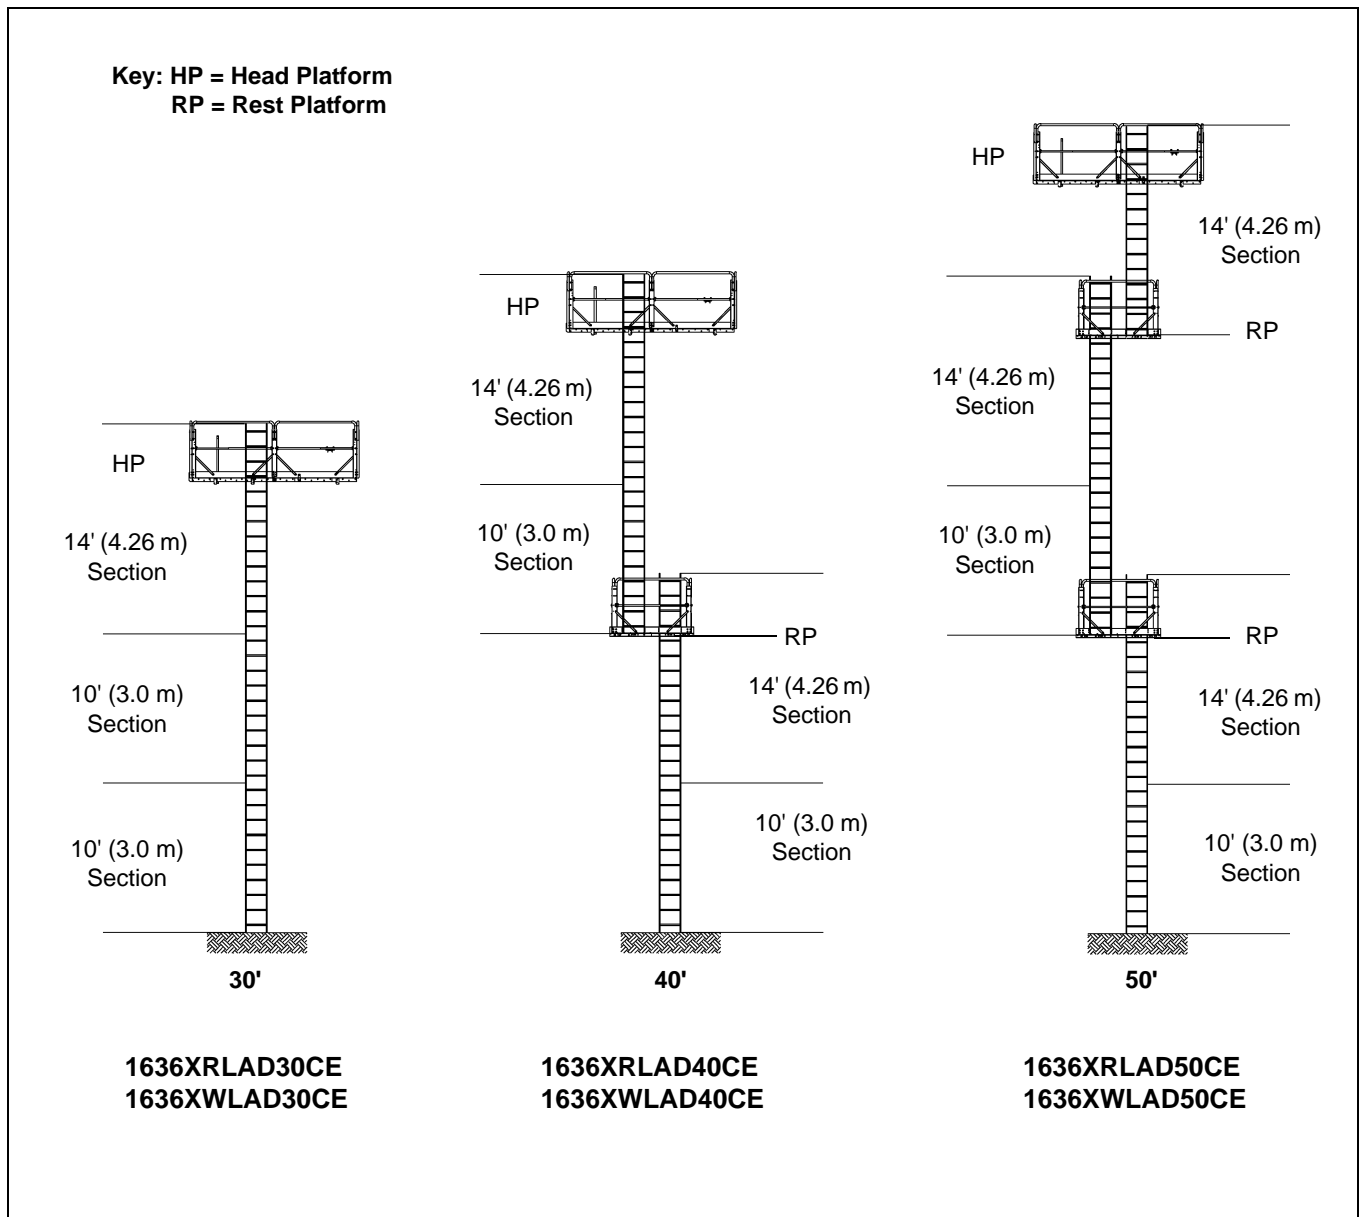

Figure 5A
(See Figures 5A-5G on Pages 10-16.)
**NOTE:** Refer to ladder layout images, Figure 5A-5G on Pages 10-16.